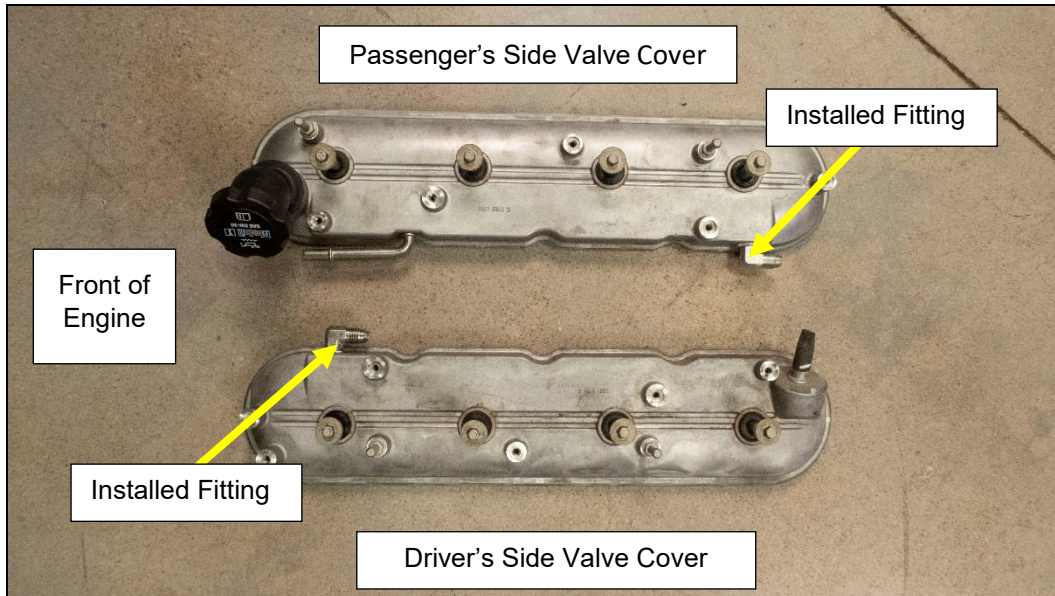

Figure 5
3. Remove the driver's side and passenger's side valve cover bolts and valve covers (**Figure 5**). Cover the rocker assemblies with a clean rag to prevent anything from falling into the engine while the valve covers are off the engine.